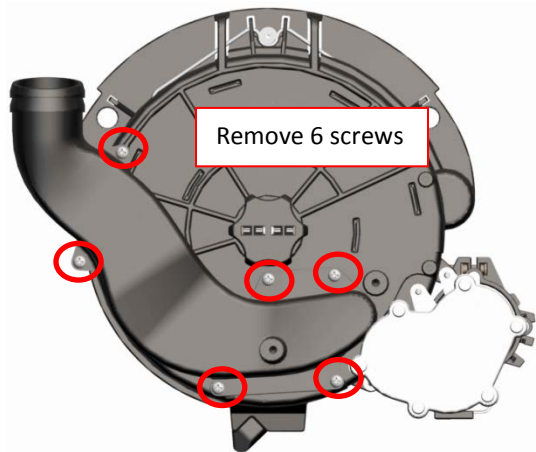

Figure 4a – Existing Meter Vacuum Elbow
- a) Remove the existing meter vacuum elbow. Refer to figure 4a.